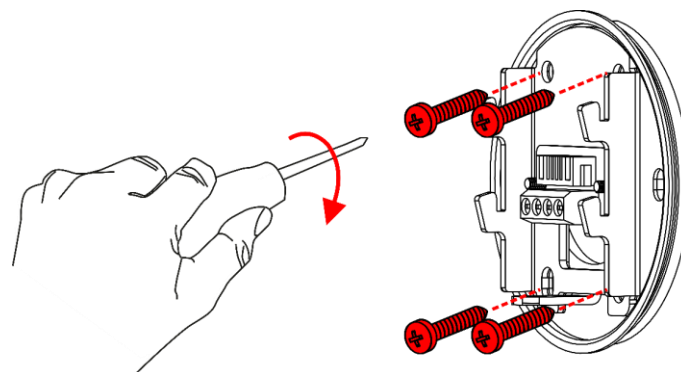

Fig. 17
- 02) Insert and tighten the screws to install the **mounting plate (07)** and the **rubber gasket (08)** on the wall (Fig. 17). The screws shall be at least 12,5 mm long. Do not overtighten the screws as this can damage the **mounting plate (07)**. The damaged **mounting plate (07)** cannot support the weight of the device and can break easily.